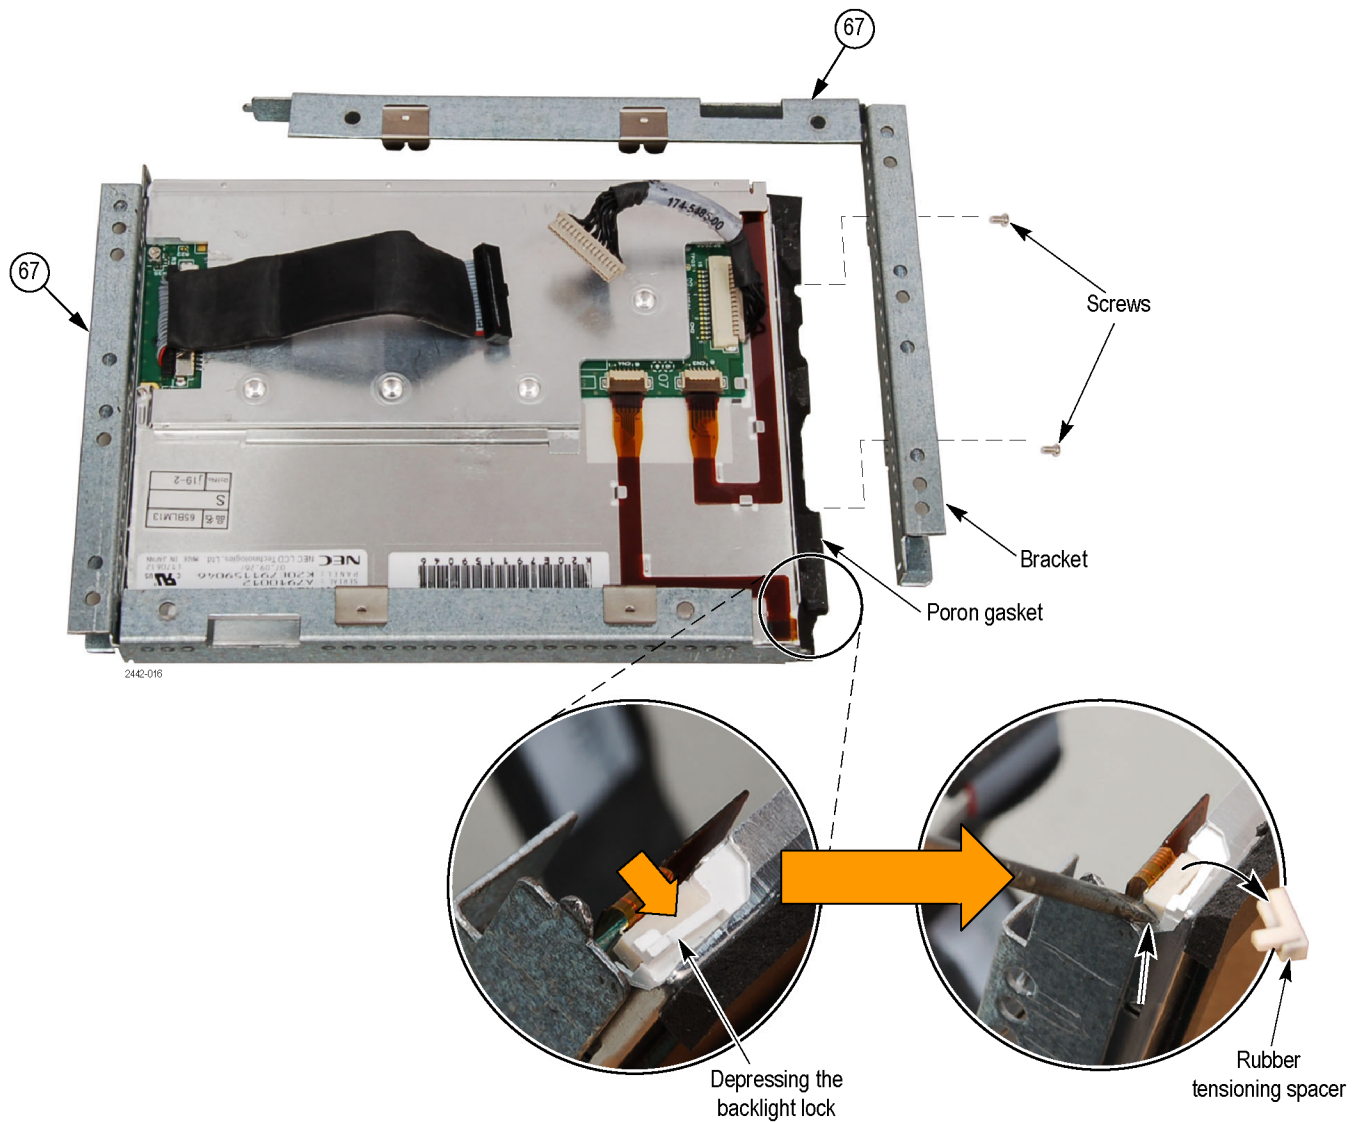

Figure 5: LCD Assembly bracket and backlight lock
3. Remove the two screws attached to the right-hand bracket of the LCD display assembly. The right-hand bracket is on the right when the assembly is facing you as shown. (See Figure 5.) When reinstalling, torque these screws to 1.0 in/lb.